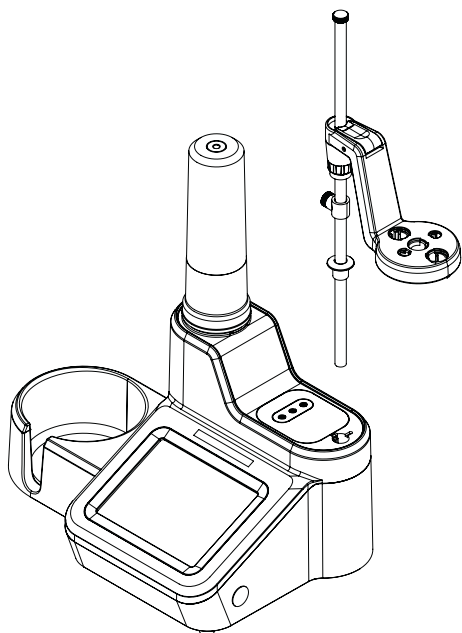

Figure 2. Electrode Holder Shaft Attachment
1. Install Electrode Holder Shaft by inserting the shaft into the hole on the top of the titrator and align the slots on the shaft with the tracks on the holder. Refer **Figure 2**.